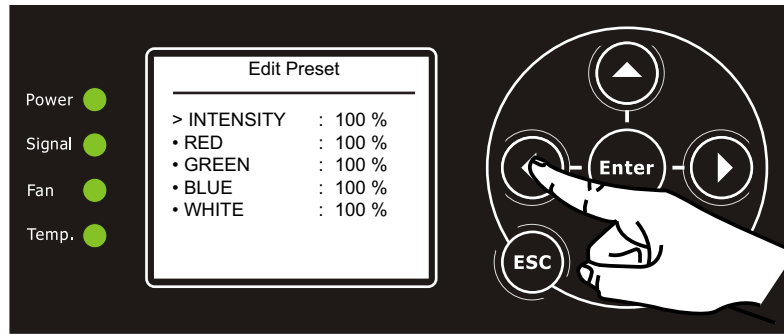

Figure 16: Edit Preset Screen
PRESET allows users to recall any of the twenty (20) user-recorded color presets. These presets can be set and recorded for playback from either a control console or the luminaire menu system (see **Figure 16 on page 16**).